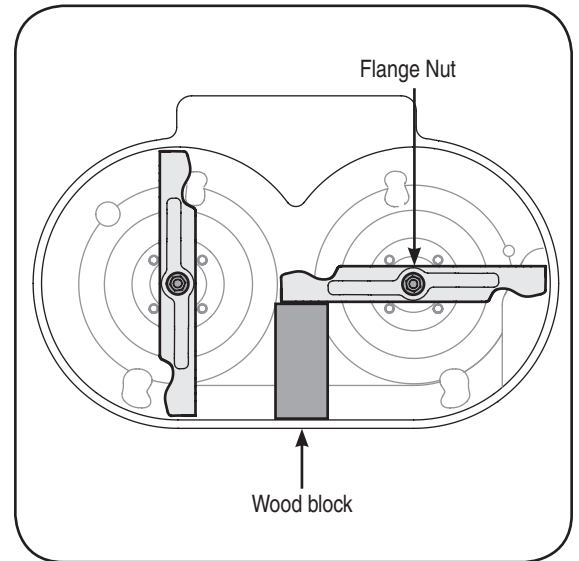

Figure 5-12: Use a block of wood to stabilize blade.
2. Place a block of wood between the deck housing and the cutting blade to act as a stabilizer, Figure 5-12.
3. Remove the hex flange nut that secures the blade to the spindle assembly, Figure 5-12.